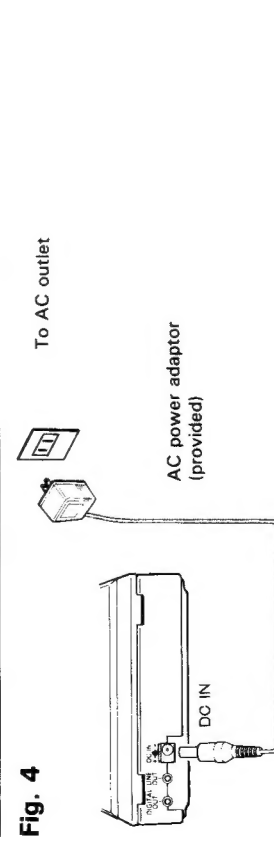

Fig. 4
Notes on the power supply <Fig. 4>
- Connect the provided AC adaptor as shown in the Fig. 4.
To operate the unit on a household power supply, connect the AC adaptor as shown in the Fig. 4.